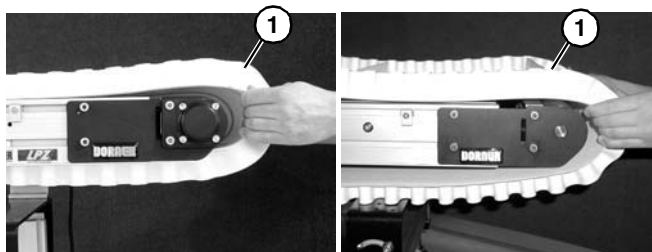

Figure 20
- Remove belt (**Figure 20, item 1**) from conveyor.